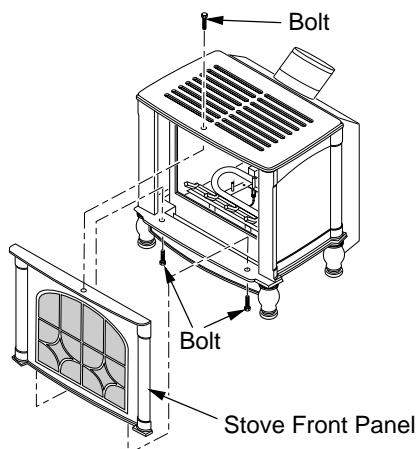

Figure 49 - Removing Front Panel from Stove
1. Remove 2 bolts from bottom of stove and one from the top of stove to remove front panel (see Figure 49, page 22).